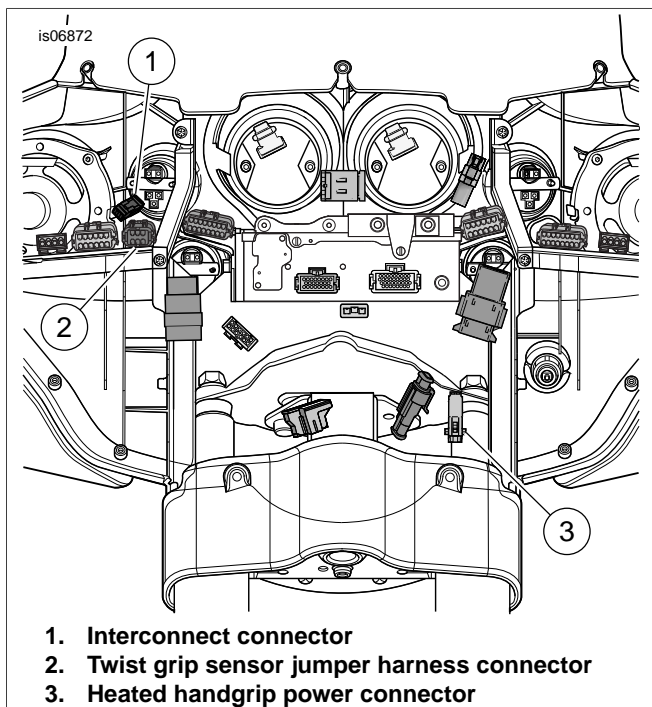

Figure 5. Fairing Wiring (FLH Models)
See Figure 5. Handgrip power connector (3) has a cap that must be removed before connecting to vehicle wiring.
2. See Figure 5. Connect power connector half from left handgrip to handgrip power connector (3).
3. Connect (1) to left side handgrip connector.
- c. Connect TGS main harness connector from jumper harness to connector (2).